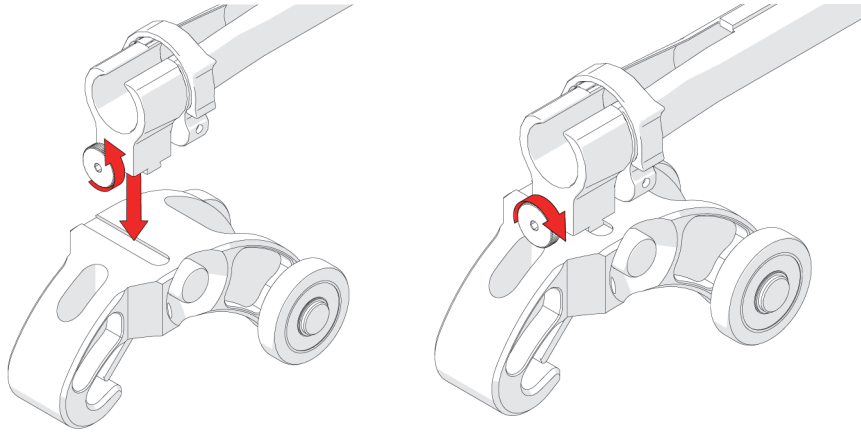

Figure 2-44 Loosen, slide on, and tighten
1. Loosen the knob on the cable management dovetail mount. Position the mount onto the dovetail QuickLink (see Figure 2-44 on page 67).
2. Center the cable management dovetail mount on the dovetail QuickLink, and then tighten its knob (see Figure 2-44 on page 67).